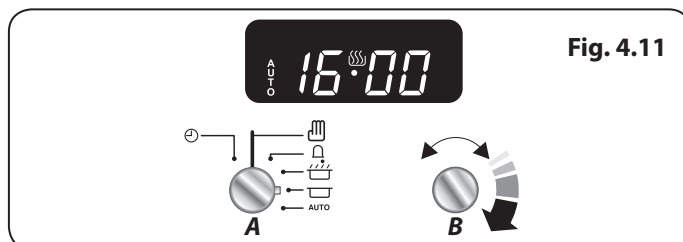

Fig. 4.11
3. Turn the **Adjusting (B)** knob to set the time of day you want the oven to stop cooking (**Fig. 4.11**).